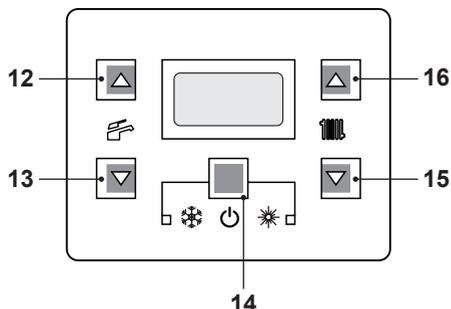
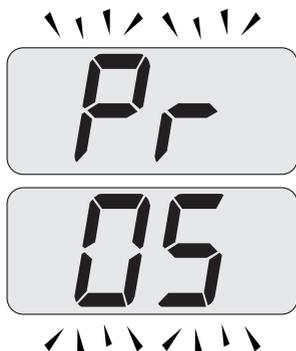

Fig. 8.3
Fig. 8.5
- Enter in "programming mode" by pressing keys 14 - 15 - 16 (Fig. 8.3) for 10 seconds at the same time until the letters Pr that alternate with code 01 are displayed on the LCD display, indicating that "parameter
- Scroll the various parameters using keys 15 or 16 until the letters **Pr** that alternate with code **05** are displayed on the LCD display, indicating that "parameter 05" (Fig. 8.5) has been activated.
- Press keys 14 and 16 (Fig. 8.3) at the same time until the value of parameter 05 (00=G20) is displayed on the LCD display (Fig. 8.6).
- By pressing key 16 three times, it is possible to change the value of parameter 05 from **00**=G20 to **05**=G31, which is ok for LPG gas.
- By pressing key 14 (Fig. 8.3) confirmation of the inserted value is obtained.
- Press keys 14 and 15 (Fig. 8.3) at the same time to exit without changing the value (return to the parameters list Fig. 8.5).
- Press keys 14 - 15 - 16 (Fig. 8.3) at the same time for 10 seconds to exit the "programming mode".